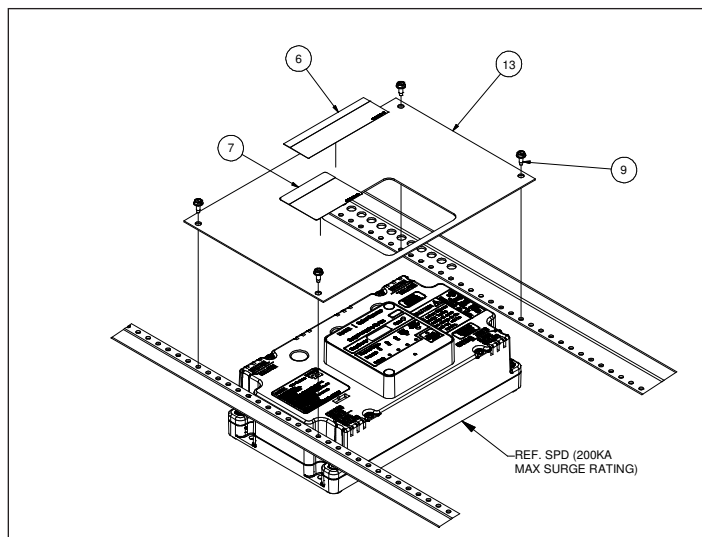

Figure 9. Label Locations.
13. Refer to Figure 9 and install the items 6 and 7 labels on the SPD dead front cover.